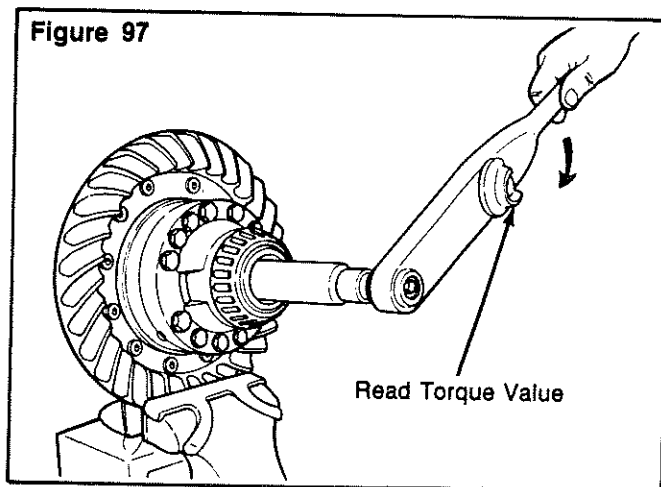

Figure 97
D. Attach a torque wrench to the nut of the tool and rotate the differential gears. As the differential gears rotate, read the value indicated on the torque wrench. **Figure 97.**